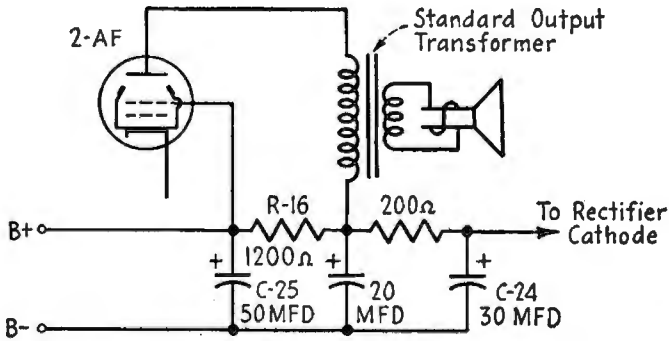

FIG. 18-32.—Replacing a hum-bucking-type output transformer. Method 4.
4. Use the circuit of Fig. 18-32. This provides a second section R-C filter.